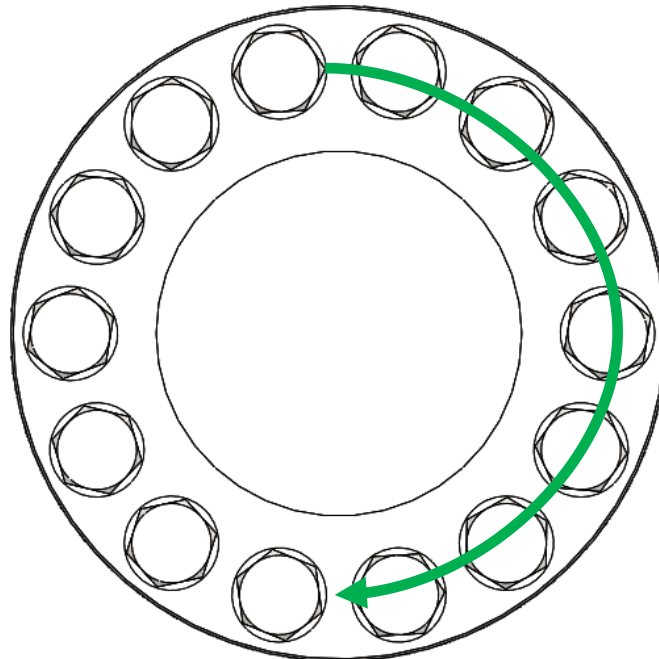

Figure 3 – Circular pattern
- Tighten the remaining jackbolts using a circular pattern, as shown in **Figure 3 – Circular pattern** to 100% of the required end tightening torque M.